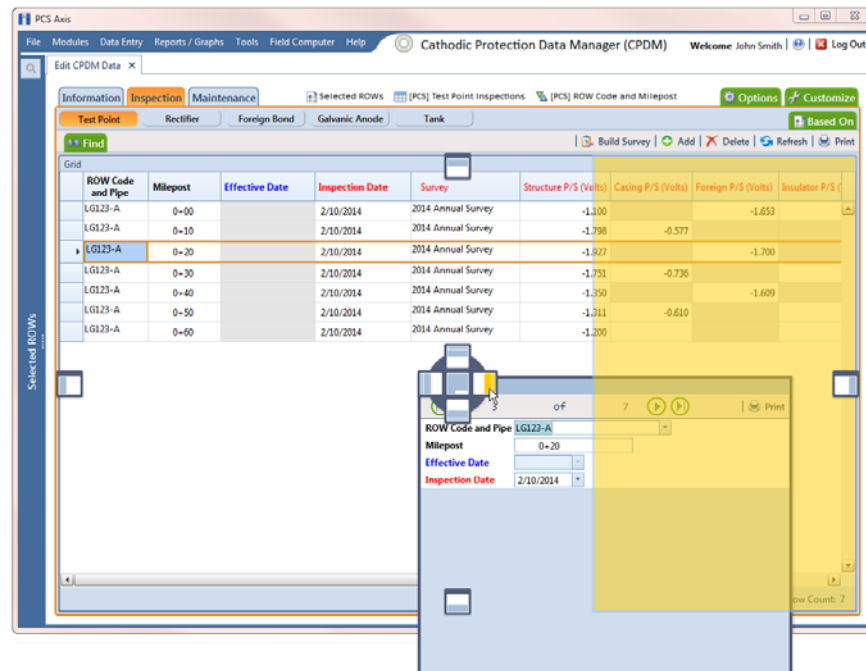

Figure 7-55. Arranging a Grid and Form
- Selecting the title bar of a form or grid and then dragging the panel displays a guide diamond. Drag the form or grid panel to the guide diamond to select where you want the panel to dock in the window. In the following example, the right guide in the diamond is selected for the new docking position as indicated by the yellow highlight color in both the guide diamond and window (Figure 7-55).